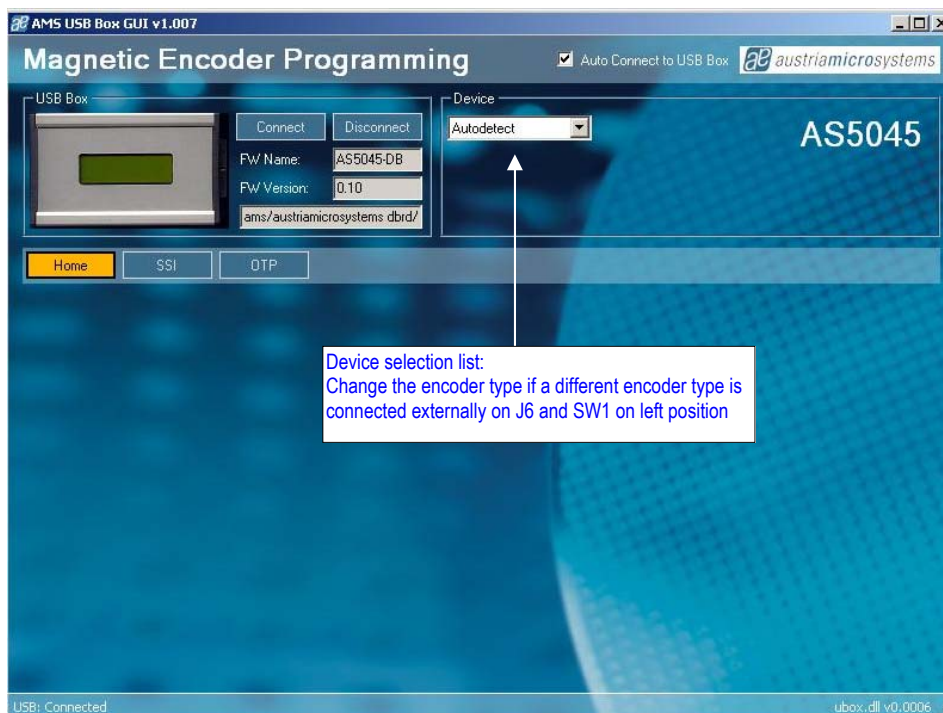

Figure 4: AS5000 GUI has detected the AS5045 Demoboard
- If the GUI is used for operation, additional devices AS5040, AS5140, AS5043 and AS5143 can be connected to J6 and evaluated. In that case, the correct encoder must be selected instead of "Autoselect" in the Device list of the PC software, see chapter 4.2 figure 4.
By selecting the SSI (serial protocol for AS5040, AS5140, AS5043, AS5143, AS5045, AS5145) tab, the real time information of the angular position and the status bits are displayed. See figure 4.